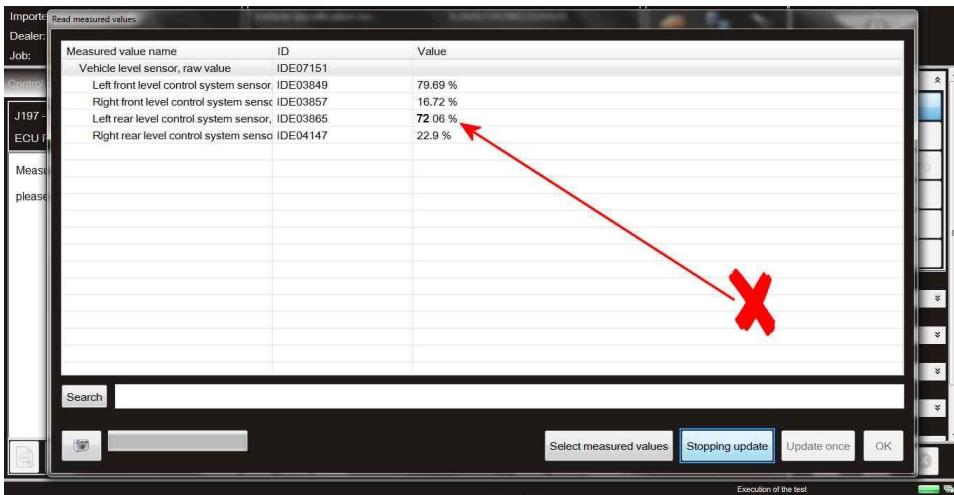

Figure 4
- Monitor the measured value results for each level control sensor (Figure 4)
- Compare the sensor measured results in Figure 4 against the correct tolerance bands shown in Figure 5